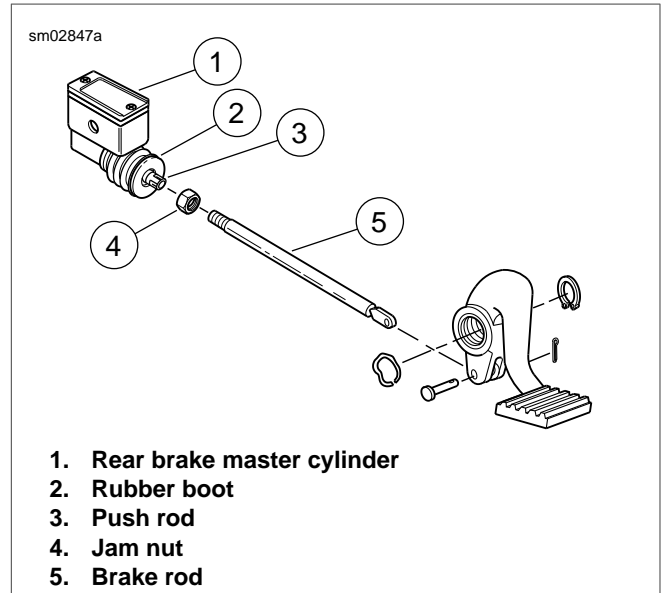

Figure 1-8. Rear Brake Pedal Height
1. See Figure 1-8. Brake rod (5) is threaded into push rod (3) in rear brake master cylinder (1), and locked in place with jam nut (4). Loosen jam nut.